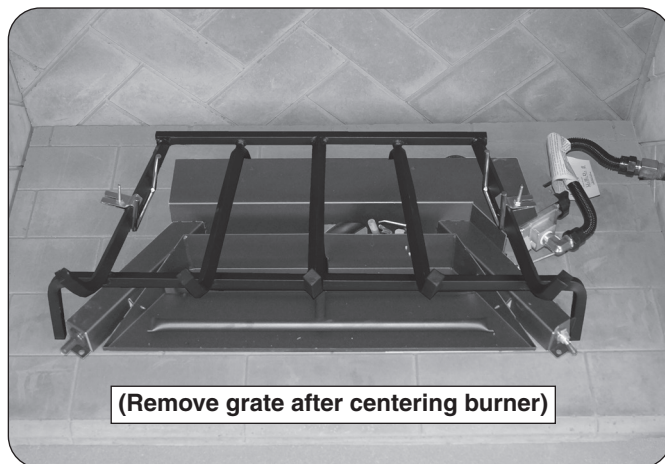

Fig. 19-3 Position grate
2. Position the grate over the burner pan, ensuring the assembly is centered from left to right (see Fig. 19-3).